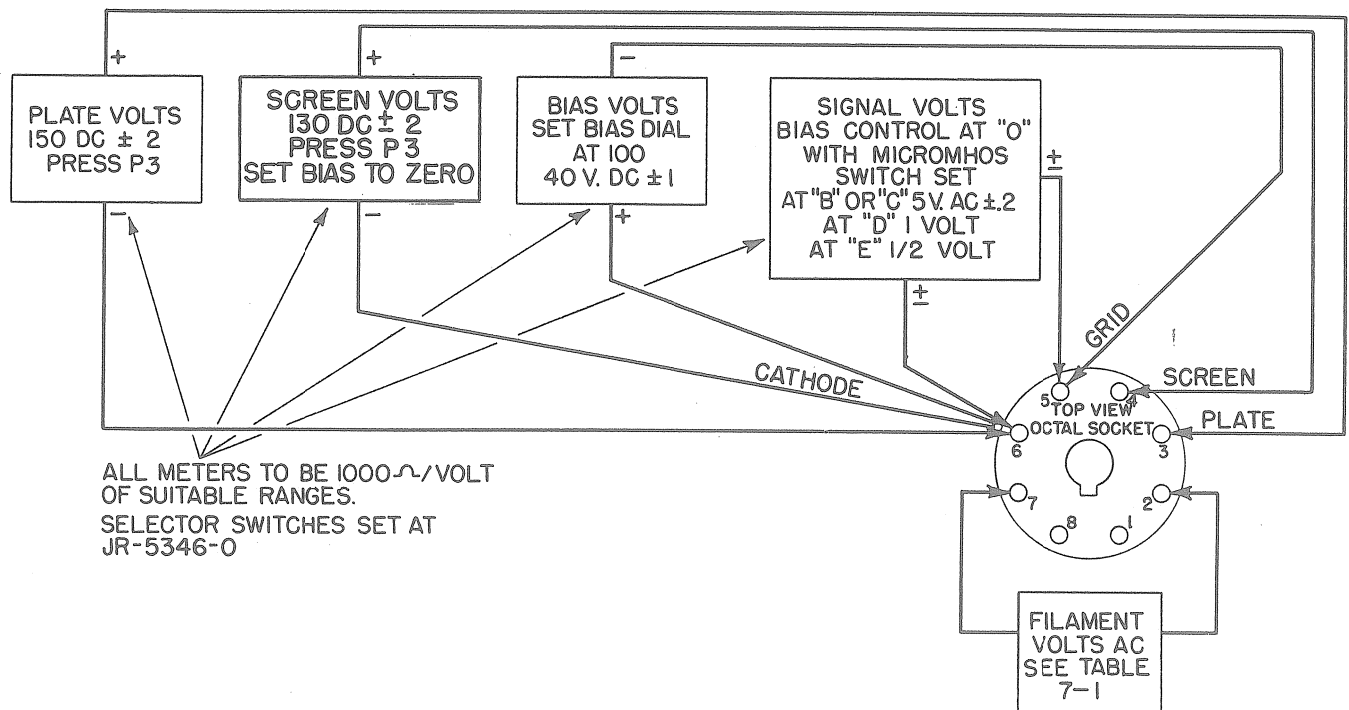

Figure 7-1. Voltage Calibration Check Diagram
- (1) Set the FUNCTION switch, S-111, and the SHORTS-MICROMHOS switch, S-108, to TUBE TEST. Set the SELECTORS, S-105, S-104, S-103, S-102, S-101, S-107, S-106 to JR 5-3460. Turn POWER switch, S-113, ON. Press LINE ADJ. push button P1 and turn LINE ADJUST control R-162 until the METER pointer is set at LINE TEST.
Voltage tests must be made with an external multimeter, or individual meters of 1000 ohms per volt sensitivity having suitable ranges of ac and dc connected as illustrated by Figure 7-1. The Multimeter section of the TV-3C/U cannot be used for these tests. If the voltages are not in accordance with the following paragraphs 7a(2) through 7a(6), refer to paragraph 8 and Table 7-2 of this section for probable causes.
**(2) PLATE VOLTAGE CHECK (150 vdc.)**
- (a) Connect the positive (+) terminal of the voltmeter to contact No. 3 of the OCTAL test socket, X-108, and the negative (-) terminal to contact No. 6 of the same socket. (See figure 7-1.)
**(3) SCREEN VOLTAGE CHECK (130 vdc.)**
- (a) Connect the positive (+) terminal of the voltmeter to contact No. 4 of the OCTAL test socket, X-108, and the negative (-) terminal to contact No. 6. Set BIAS control to zero. (See figure 7-1.)
- (4) BIAS VOLTAGE CHECK (40 vdc.)
- (b) Connect the positive (+) terminal of the voltmeter to contact No. 6 of the OCTAL test socket X-108 and the negative (-) terminal to the No. 5 contact. (See figure 7-1.)
- (5) SIGNAL VOLTAGE CHECK (0.5, 1, and 5 vac.)
- (b) Connect the terminals of the ac voltmeter to contacts 5 and 6 of the OCTAL test socket X-108. (See figure 7-1.)
- (6) FILAMENT VOLTAGE CHECK (1.1 to 117 vac.)
- (7) BIAS control and SHUNT control should indicate zero when they are in full counter-clockwise positions. If they do not, loosen the set screws and reset the dials on the shafts.
- (1) Turn on the equipment and set all controls in accordance with paragraph 7a(1) of this section.
- (2) Connect a voltmeter between pins 5 and 6 of OCTAL socket X-108 as illustrated by figure 7-1.
- (3) Set BIAS control R-165 at 100.
- (4) Adjust slider "A" of R-166 until the meter reads 40 volts dc.
- (5) Connect a voltmeter between pins 4 and 6 of OCTAL socket as in figure 7-1.
- (6) Press buttons P3 and P2 and adjust slider "B" of R-166 until the meter reads 56 volts dc.
- (7) Tighten the slider screws and recheck the voltages.